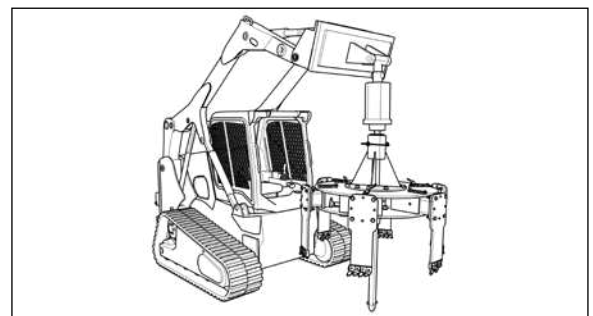

Figure 18. Cutter Attached To Skid Steer
19. Once the Six Shooter is securely attached to the Auger Drive on the skid steer loader, remove the Supporting Legs. See Figure 18.